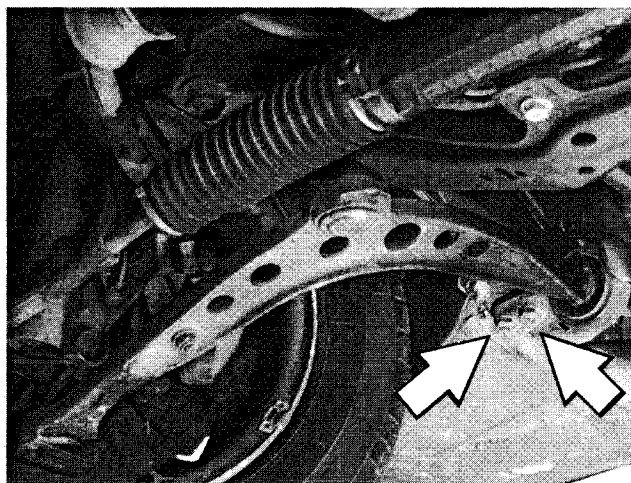

Fig. 9. Control arm bushing carrier bolts (arrows).
- Remove control arm to subframe crossmember ball joint nut. Separate ball joint from crossmember. Working at other end of control arm, remove bolts attaching control arm bushing carrier to body. See Fig. 9.